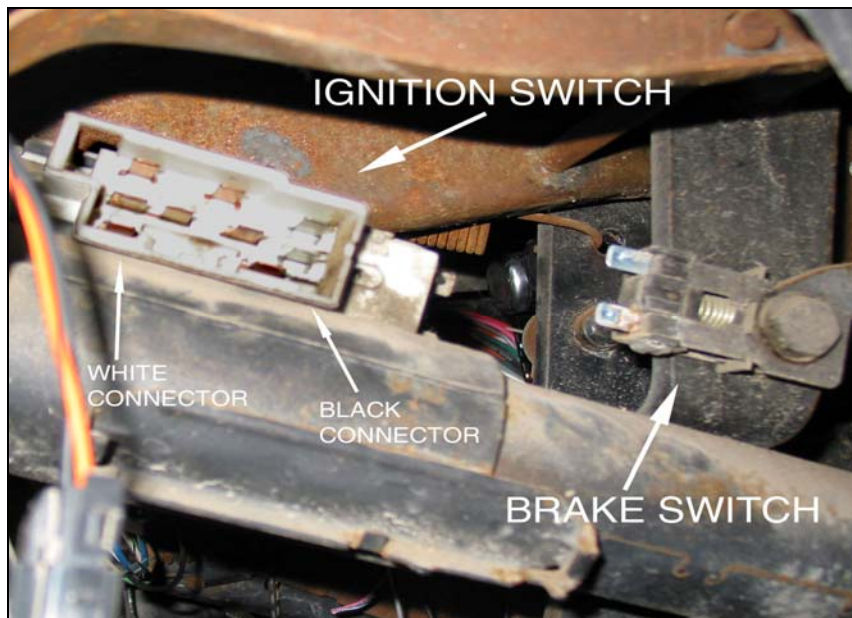

Figure 7.4.4 *Ignition Switch & Brake Switch Connections*
- 7.4.4** The IGNITION SWITCH consists of two connectors; both are installed on the new Painless harness. The black connector will need to be installed first. Locate the IGNITION SWITCH connecting point on the top of the steering column. The Black connector goes into position on the end closest to the firewall. The White connector installed on the other group of IGNITION SWITCH wires will need to go on the end closest to the steering wheel and must only be installed after the Black connector is in it's place. Use **Figure 7.4.4** for reference.
- 7.4.5** The two BRAKE SWITCH wires come with a connector already installed. Locate the BRAKE SWITCH at the top of the brake pedal near the steering column. (see **Figure 7.4.4**) The BRAKE SWITCH is not polarity specific so it does not matter which way the connector is installed.